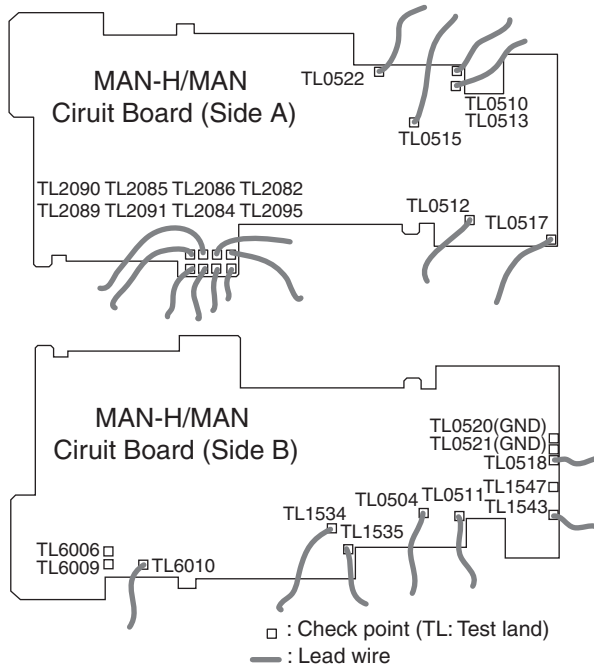

Fig. 4-7-5 Lead wire soldering of MAN-H/MAN circuit board
- 1) Solder a lead wire of approx. 10 cm to the check points (except for IC pins) on side A/B of MAN-H/MAN circuit board and side B of AEL-H/AEL circuit board, referring to “4-7-1 Trouble diagnosis table” and “C-1 MAN-H/MAN” and “C-2 AEL-H/AEL” circuit board diagrams. (See Figs. 4-7-5, 4-7-6)